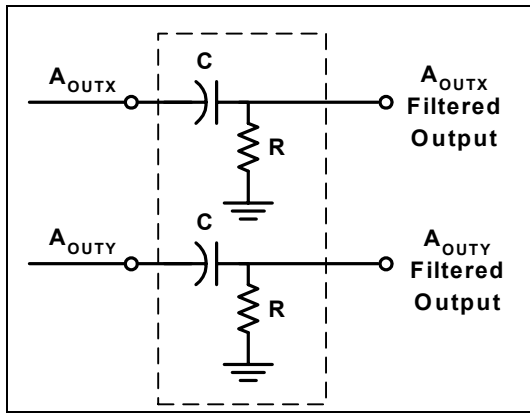

Figure 3: High Pass Filter
**AC Coupling:** For applications where only dynamic accelerations (vibration) are to be measured, it is recommended to ac couple the accelerometer output as shown in Figure 3. The advantage of ac coupling is that variations from part to part of zero g offset and zero g offset versus temperature can be eliminated. Figure 3 is a HPF (high pass filter) with a  $-3\text{dB}$  breakpoint given by the equation:  $f = \frac{1}{2\pi RC}$ . In many applications it may be desirable to have the HPF  $-3\text{dB}$  point at a very low frequency in order to detect very low frequency accelerations. Sometimes the implementation of this HPF may result in unreasonably large capacitors, and the designer must turn to digital implementations of HPFs where very low frequency  $-3\text{dB}$  breakpoints can be achieved.